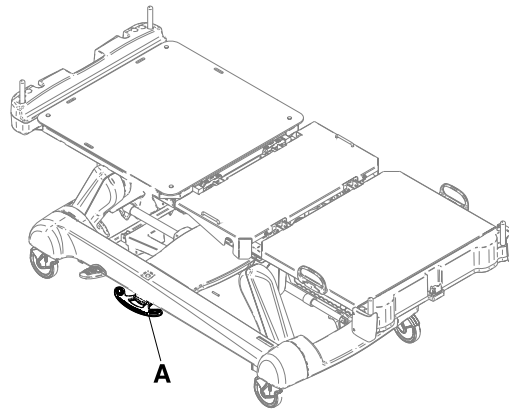

Figure 1-5: Flipped manual brake pedal
1. Flip down the brake pedal (A) (Figure 1-5 on page 1-21).